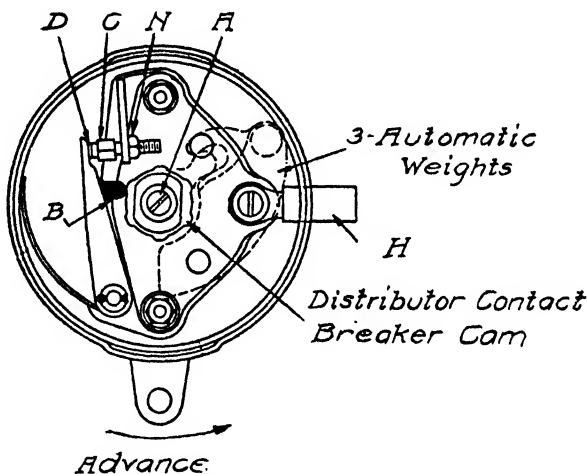

Fig. 126. Delco Magneto Type Interrupter
**Delco System.** A magneto-type interrupter, substantially similar to that of the Connecticut system except that it is provided with an automatic-spark advance, is used, as shown in Fig. 126. The arm *B* carries the movable contact *D* and a fiber-striking lug which bears against the four-part cam and is lifted by its revo-